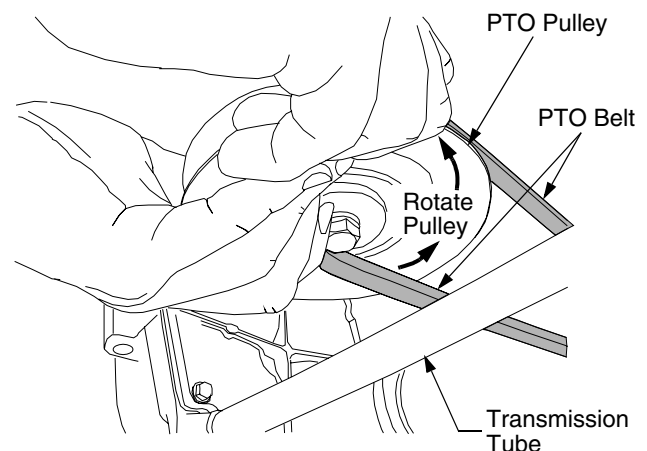

Figure 32
- Pull the right side of the belt rearward and place the narrow V side of the belt into the PTO pulley. See Figure 32.
- While holding the belt and pulley together, rotate the pulley to the left (See Figure 32). Continue holding and rotating the pulley and belt until the belt is fully rolled into the PTO pulley. **NOTE:** If using the left side of the belt, turn the pulley to the right.